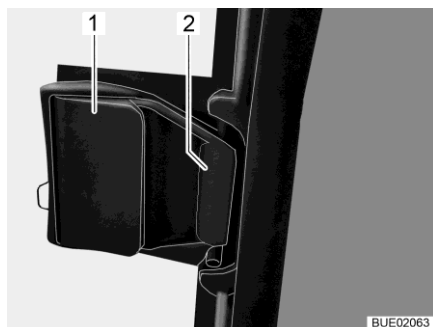

Fig. 92 Sliding window, locked
- Pull the release element (Fig. 92,1). The latch (Fig. 92,2) opens.